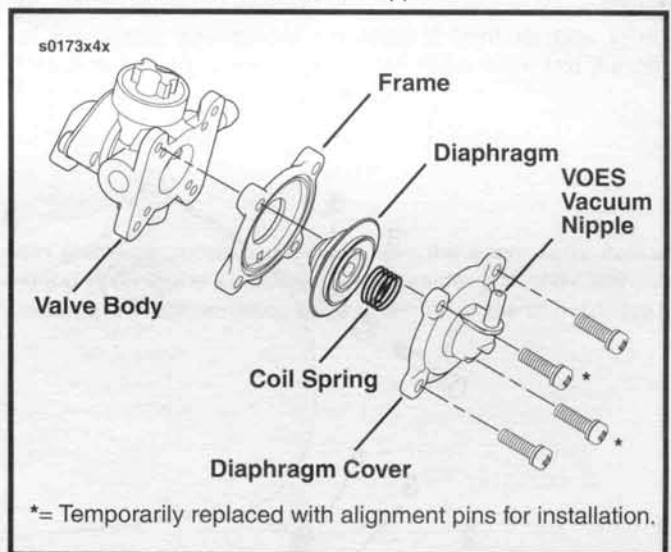

Figure 4-15. Fuel Valve Components
7. See Figure 4-15. Remove diaphragm frame from valve body, then remove the diaphragm assembly from the frame by pressing the small diaphragm end through the frame.